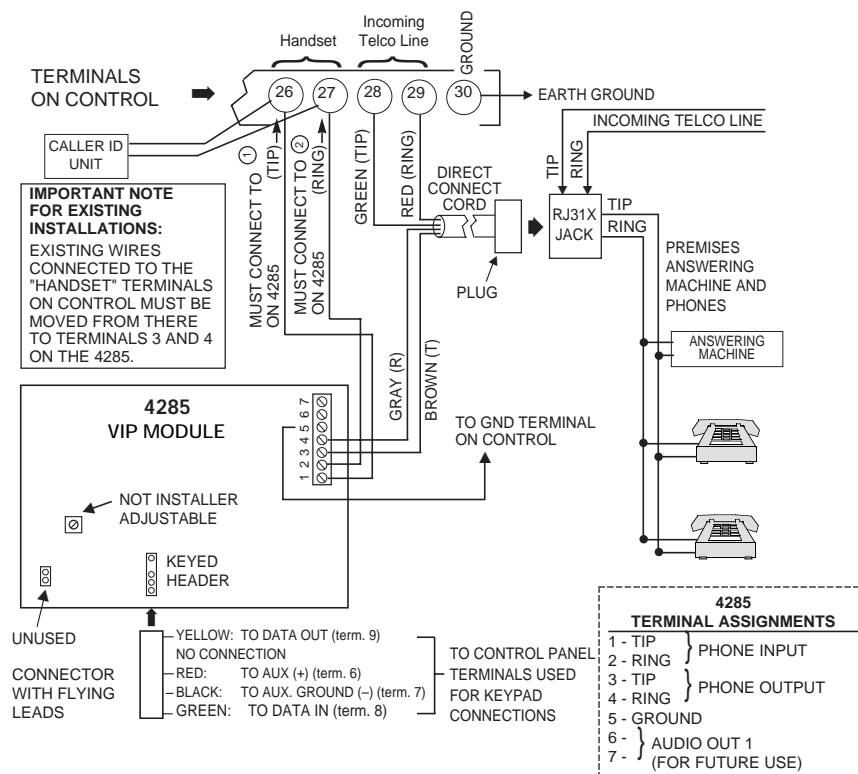

Figure 18. 4285 VIP Module Connections
3. Connect terminals 1 through 5 on the VIP Module as shown in *Figure 18*.